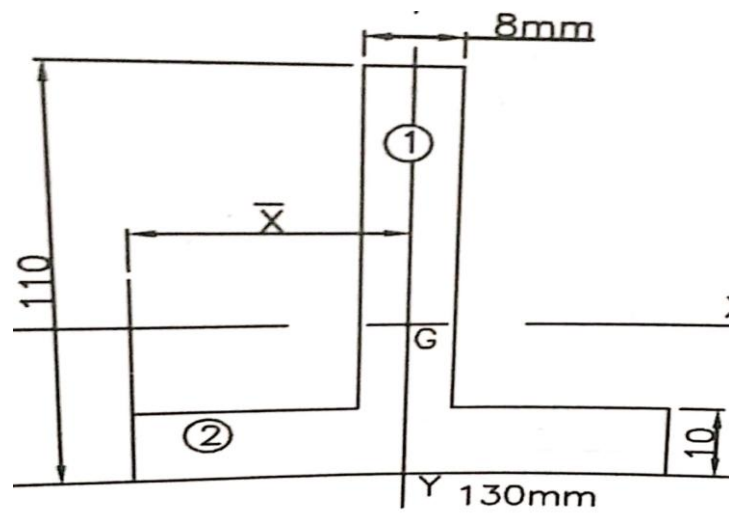
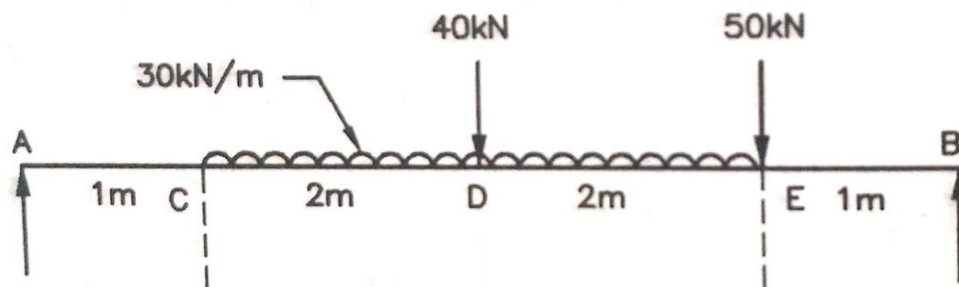

Fig.2
Fig. 3
(B) Find out moment of inertia I_{xx} and I_{yy} for the inverted T – section shown in fig.2. **07**
- Q-5 Attempt all questions (14)**
(A) Draw shear force and bending moment diagram for a beam given in fig.3. **07**